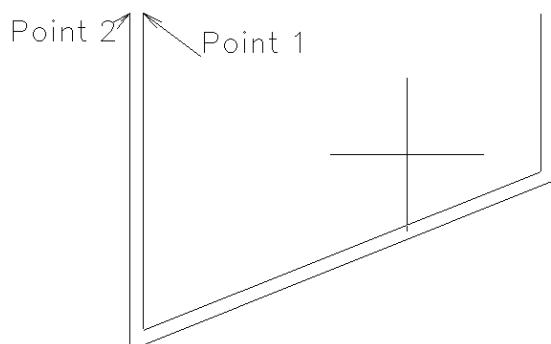

Figure 7
2. Make a **PARALLEL LINE** (=) to this one at the amount and direction of overhang. (Figure 7)
4. **ERASE** (E) the line made in step 1 (the cabinet front line).